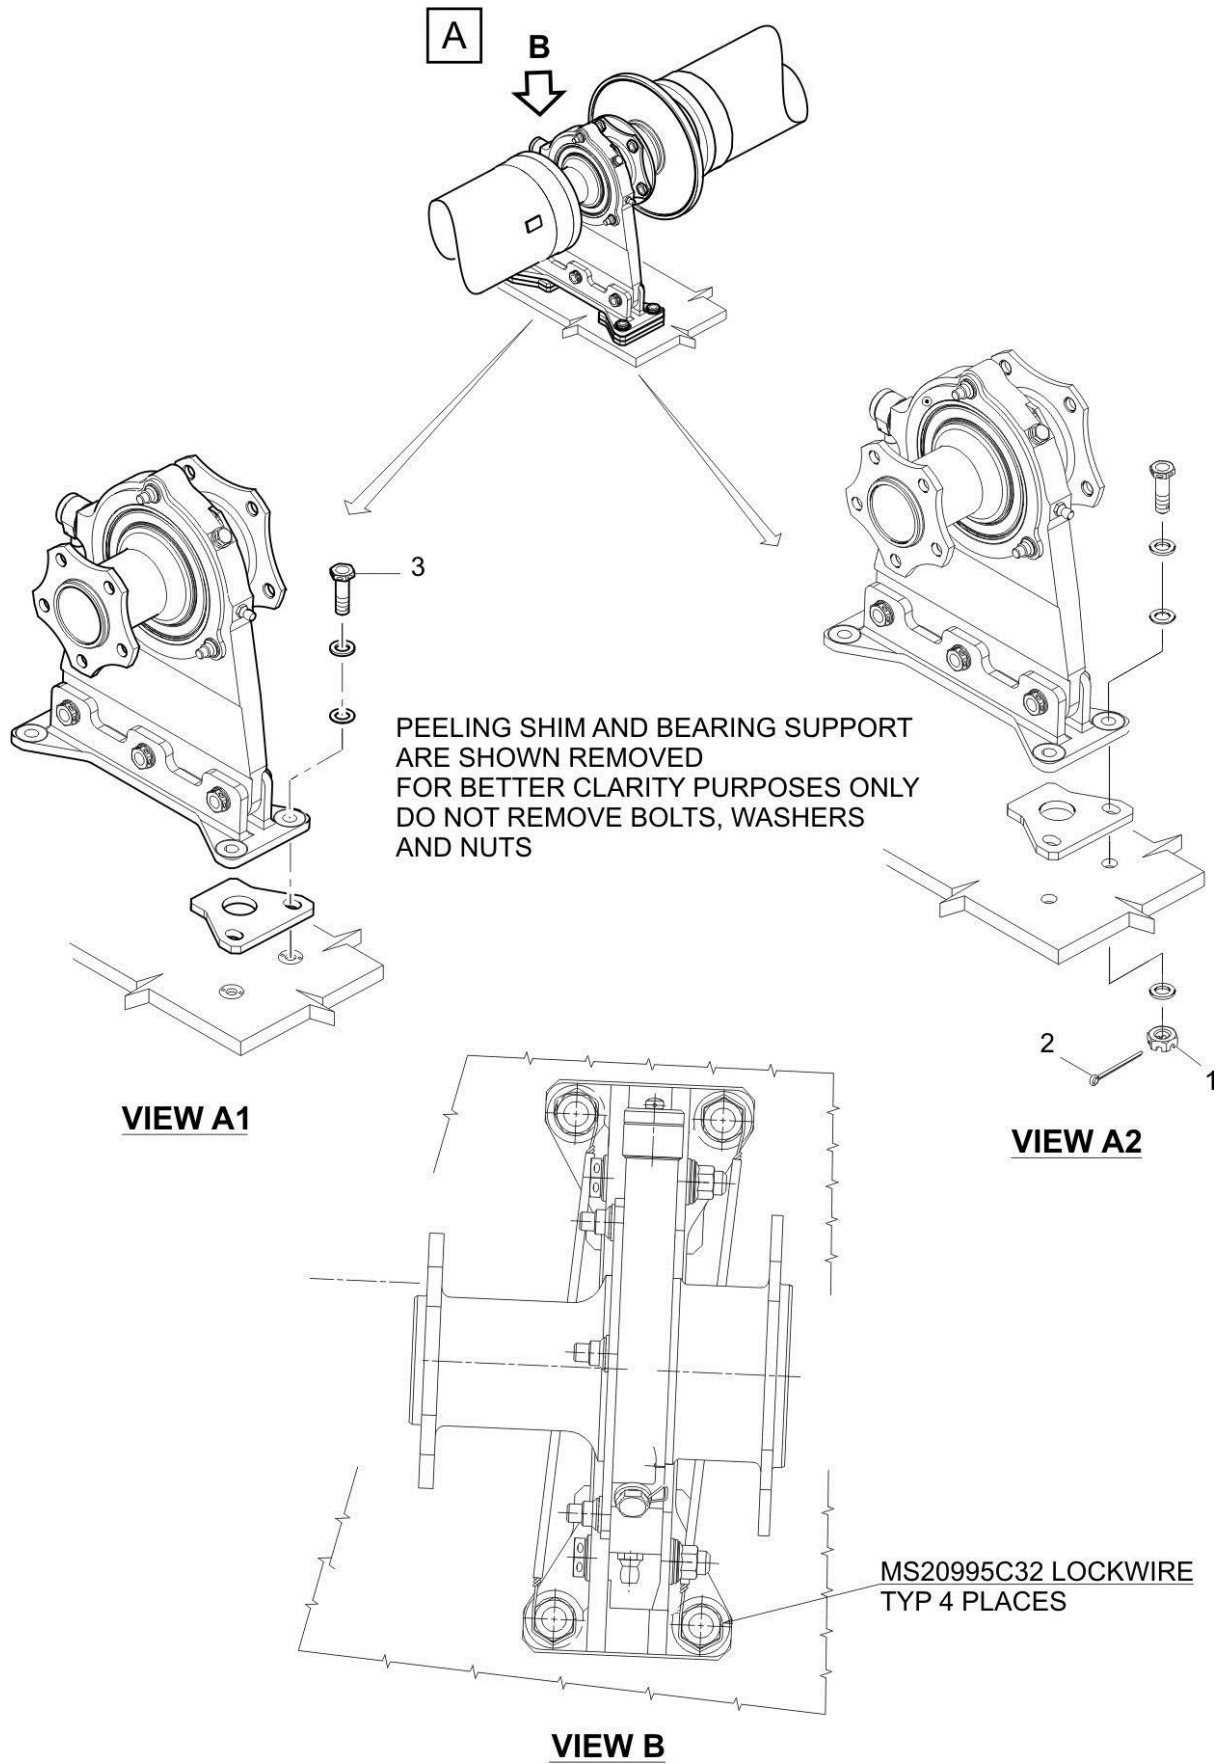

Figure 2
2. With reference to figure 2 view A2, check the torque of the four nuts (1) that fix the bearing support bracket as follows:
3. With reference to figure 2, check the torque of the four bolts (3) that fix the bearing support bracket as follows:
- 3.3 With reference to figure 2 view A1, remove the sealing compound from the bearing support bracket bolts (3) with the plastic scraper.
- 3.8 Safety the four bolts with lockwire P/N MS20995C32 according to figure 2 view B.